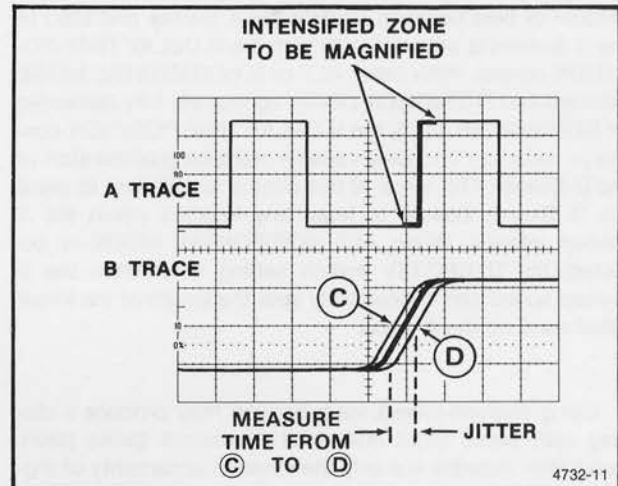

Figure 4-11. Pulse jitter.
2. Referring to Figure 4-11, measure the difference between Point C and Point D in divisions and calculate the pulse jitter time using the following formula: